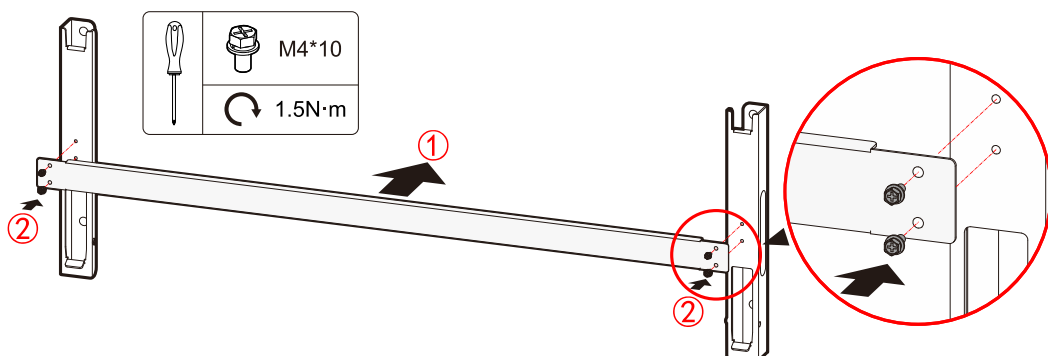

Figure3-11 Assemble installation holder
- Step 1 Use the equipped four M4*10 combination bolts to fix the installation holder with the joint lever, as shown in Figure3-11.